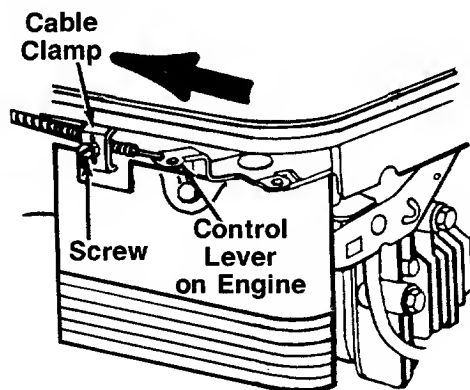

FIGURE 23.—Models 464R, 466R, 468R, 474R, 476R and 478R
1. Remove the screw shown in figure 23. Remove the cable clamp from the cable.